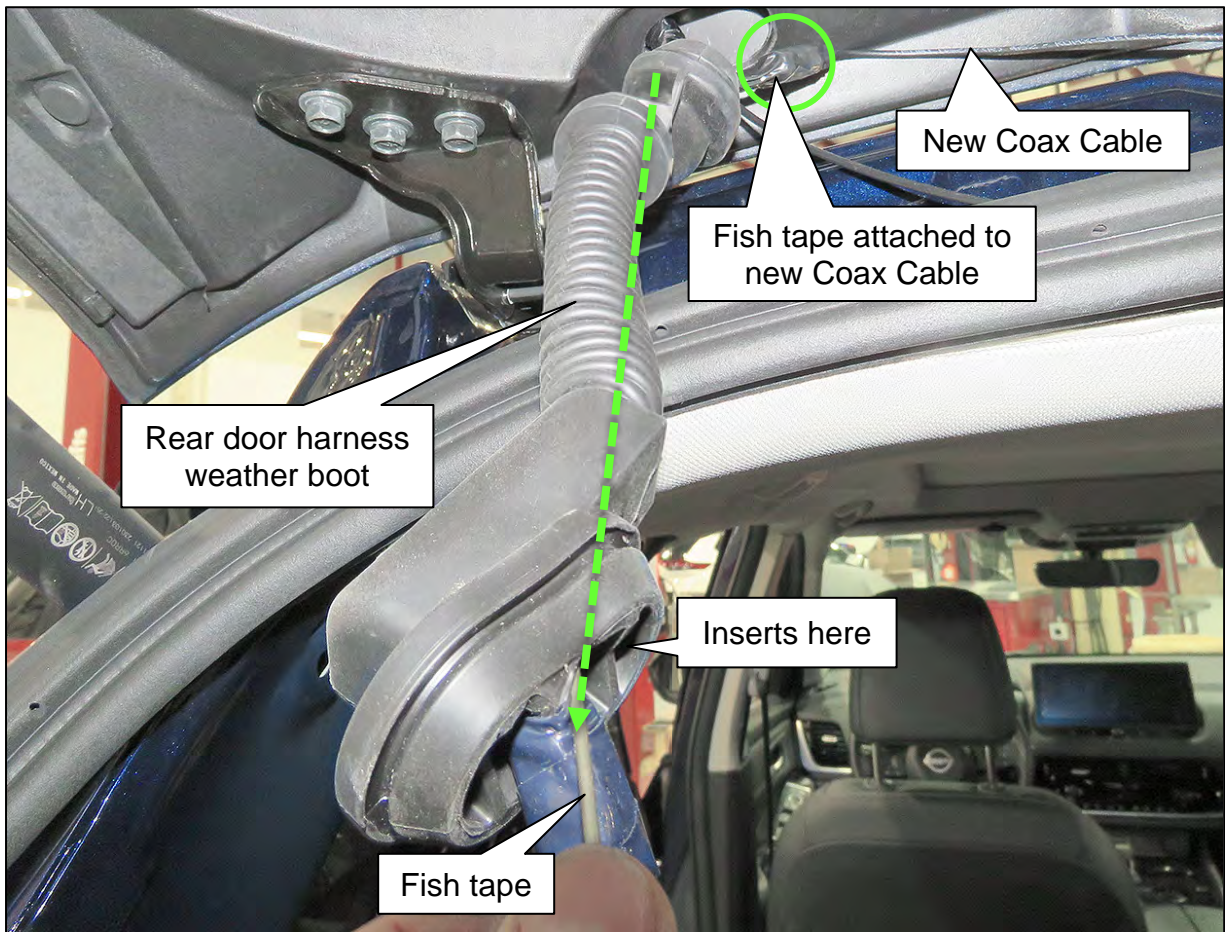

Figure 14
22. Insert a fish tape into the weather boot where shown in Figure 14, and then gently guide it through the weather boot to the other end.
24. Gently draw the Coax Cable through the weather boot in the direction indicated in Figure 14, and then remove the tape from the Coax Cable and fish tape.